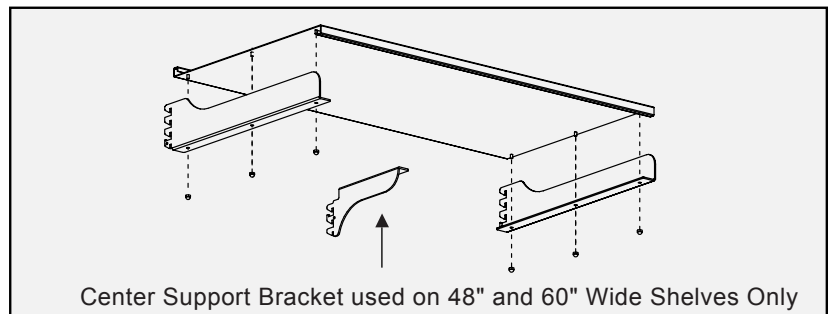

Fig. 8A
- B. Attach left and right brackets to Shelf using cap nuts (Fig. 8A). Cap nuts are included with Shelf. Note the Center Support Bracket is only included with 48" and 60" Wide Shelf Assemblies.